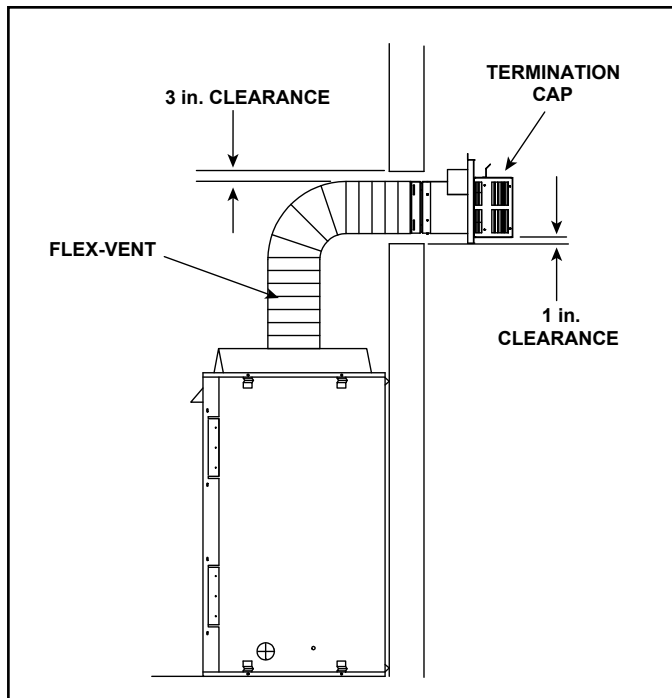

Figure 4.8 Flex Vent Pipe - Generic Fireplace Shown
A support is required at each change in venting direction, and in any location where it is necessary to maintain the necessary clearance to combustibles. A simple “up and out” installation (Figure 4.8) requires only enough support to maintain the necessary clearance to combustibles. However, the vent attachment point and the firestop location are considered to be supports.
**\*\*Note:** When using **SLP-FLEX (6-5/8 in.)** venting, there **MUST** be a 25% reduction in total H when using flex vent. See Figure 4.8.